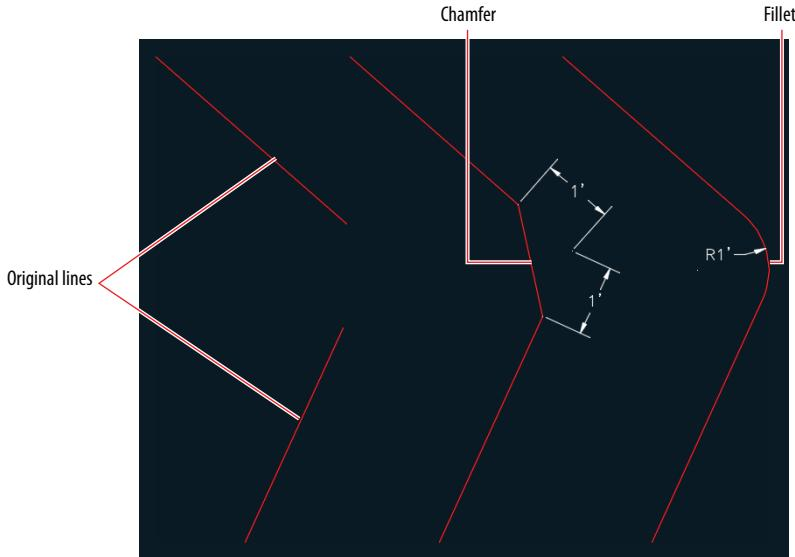

FIGURE 2.27 Chamfered and filleted lines
- Click one line and then hover the cursor over the second line; you'll see a preview of the chamfer that will be created. Click the second line to perform the chamfer and complete the command. (The chamfer is shown in the middle of Figure 2.27.)
5. Click the first line, and then position the cursor over the second line; the fillet preview shows on screen. Click the second line to commit to that particular radius. (A fillet is shown at the right of Figure 2.27.)